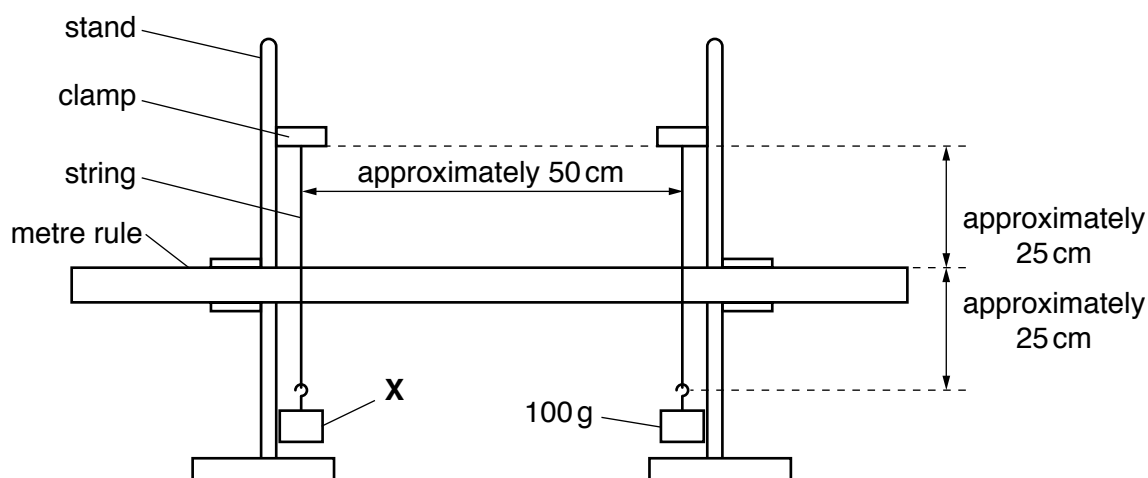

Fig. 1.1
1. The apparatus should be set up for candidates as shown in Fig. 1.1.
The vertical strings should be approximately 50 cm apart and must be suspended from the same height above the bench. It is not important that they are identical in length but there should be approximately 25 cm of each string below the rule. The strings must be arranged so that they hang just in front of the rule and so that the scale can be easily read at that point. This may be most easily achieved by arranging the clamps at opposite sides of the stands as indicated in Fig. 1.1.
Check that the metre rule is clamped as shown in Fig. 1.1 and that the loops are intact.